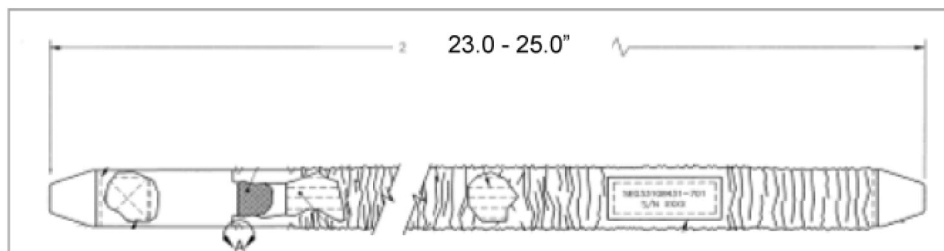

Figure 10. Waist Tether.
- 11. Mark the desired length on a stable surface. Refer to Figures 10 and 11 for required lengths.